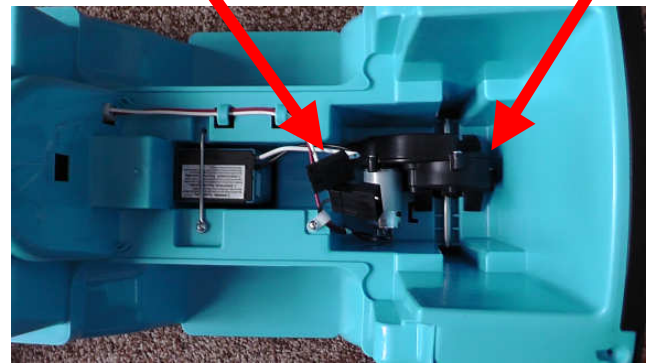

Fig. 2 Wiring Compartment
2) Working in the Wiring Compartment, **unplug the Battery**. Don't tug on the wires. The two plastic halves just pull apart. **Fig. 2**
Lay a **cloth over the motor and axle** so drill shavings do not fall in. **Fig. 2**